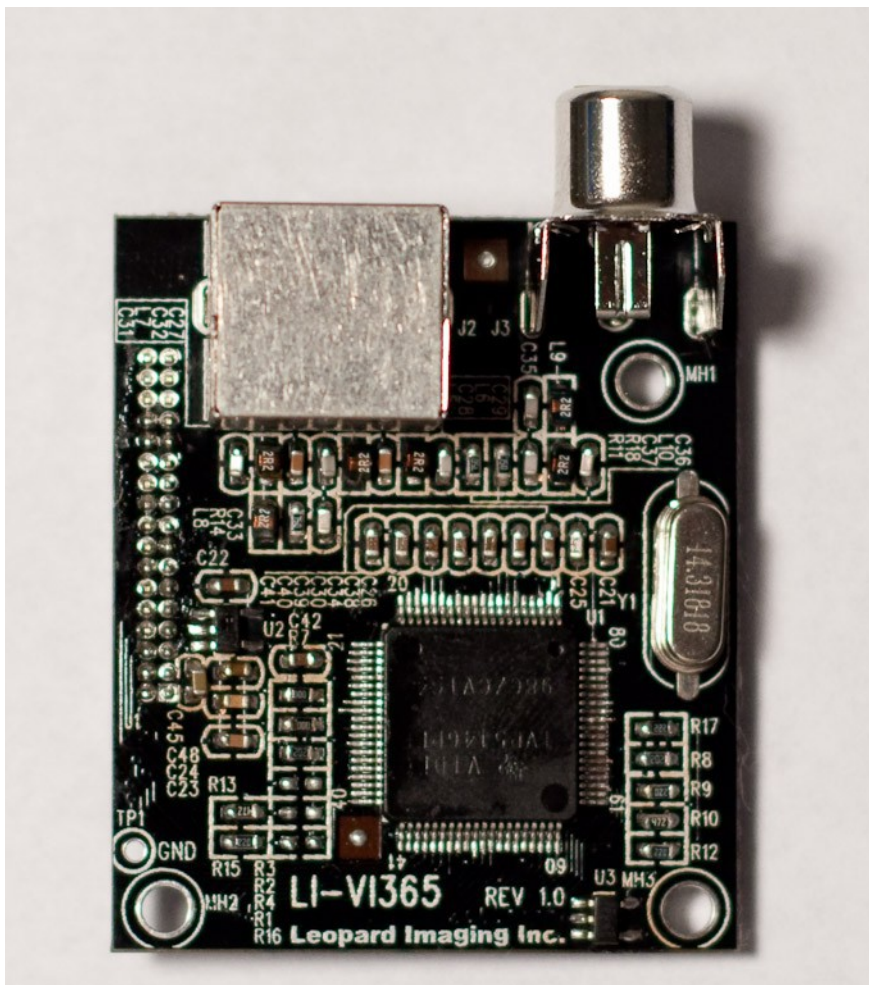

Figure 17. Video Input Board
**1.2.6 Video Input board, see Figure 17**